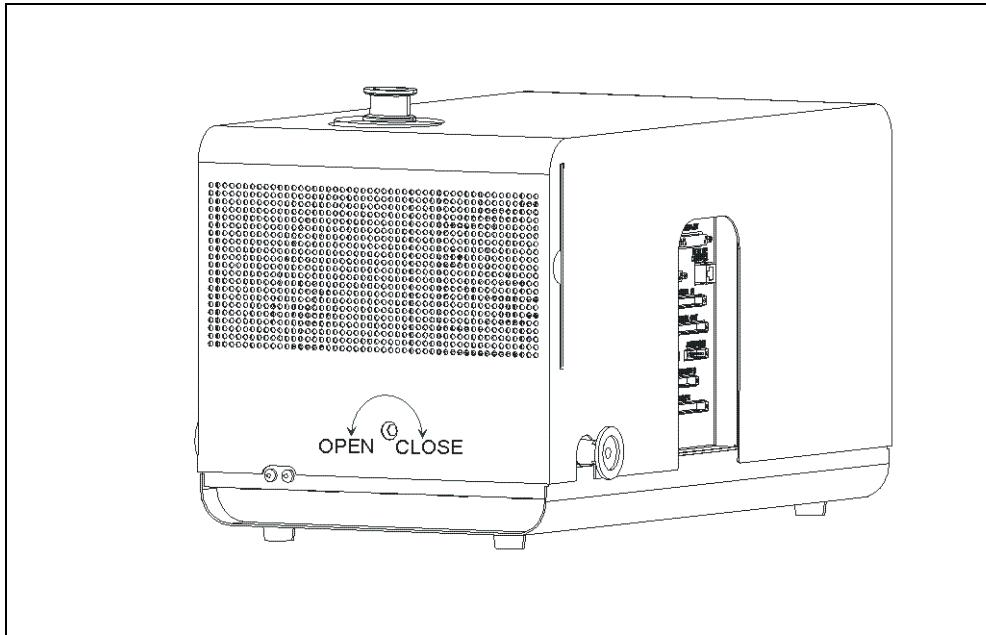

Fig. 7-2 Opening the device cover
- 3 Use the Allen wrench AF 8 mm to open the (ROTO-LOCK) fasteners on either side of the unit cover. See Fig. 7-2 for more information.